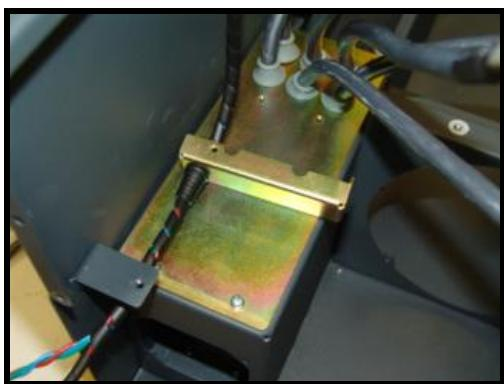

Figure 7.3.23
- 7) Remove the 2 screws (**M4x8 DIN-7895H**) which hold the fixing bar for the fan cables to the chassis (see figure 7.3.23).
- 3) Hold the fixing bar of the fan cables with their 2 screws (**M4x8 DIN-7895H**) (see figure 7.3.23).